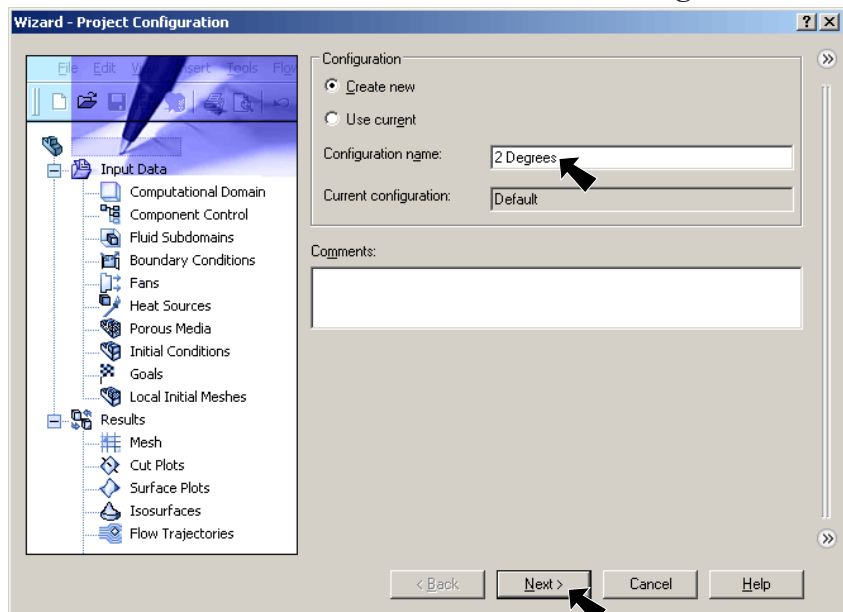

Fig. 2
- Step 3. Key-in **2 Degrees** for Configuration name, Fig. 2.